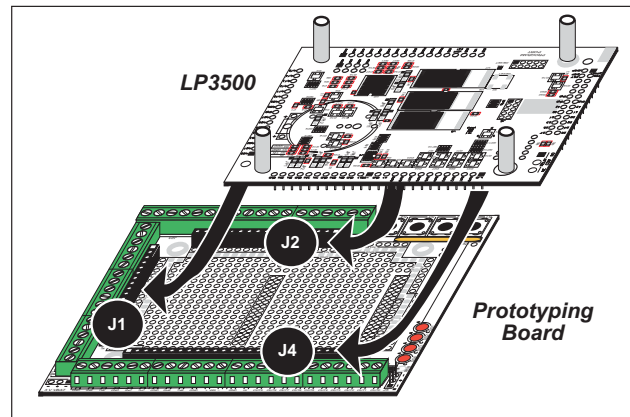

**Figure 2. Attach Stand-Offs and Remove Battery Cap**
1. Use the 4-40 screws supplied with the Tool Kit to attach the metal standoffs to your LP3500 series board as shown in Figure 2.